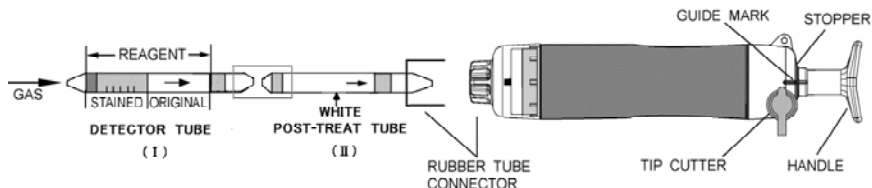

Fig.1
- ① Break both ends of a new detector tube (I) and a post-treat tube (II), and connect each end of the detector tube and post-treat tube with rubber tube as shown in Fig 1.
- ② Insert the post-treat tube into the aspirating pump securely as shown in Fig.1. (Arrow mark shall point to the pump.)
- ③ Align the guide marks on the handle and stopper of the aspirating pump.
- ④ Pull the pump handle at full stroke until it locks and wait for 3.5 minutes or until the completion of sampling is confirmed with the flow indicator of the pump (See descriptions about the flow indicator in the instructions of the pump).
- ⑤ On completion of sampling, read the scale at the maximum point of the stained layer.
- ⑥ In case of 2 pump strokes, turn the handle to right or left at 1/4 turn and push back it thoroughly without removing the detector tube from the pump, and then align the guide marks again as shown step ③ and repeat step ④.
- ⑦ In this case, actual concentration is half of the reading value.